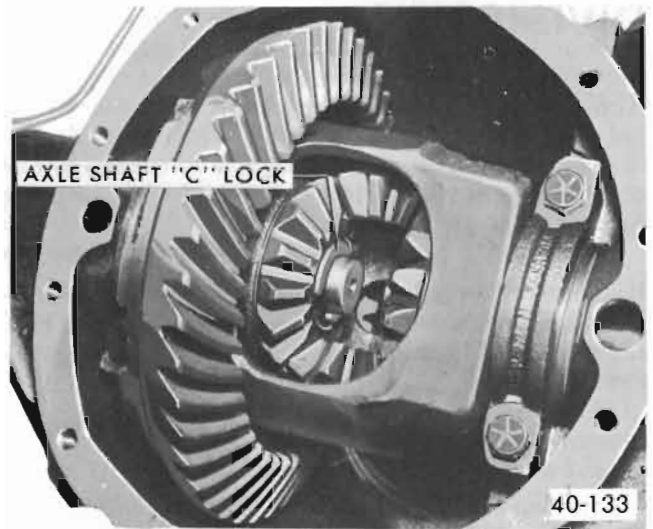

Figure 40-111 Axle Shaft "C" Locks
c. Push axle shafts inward to permit removal of "C" locks, then remove axle shafts. See Figure 40-111.